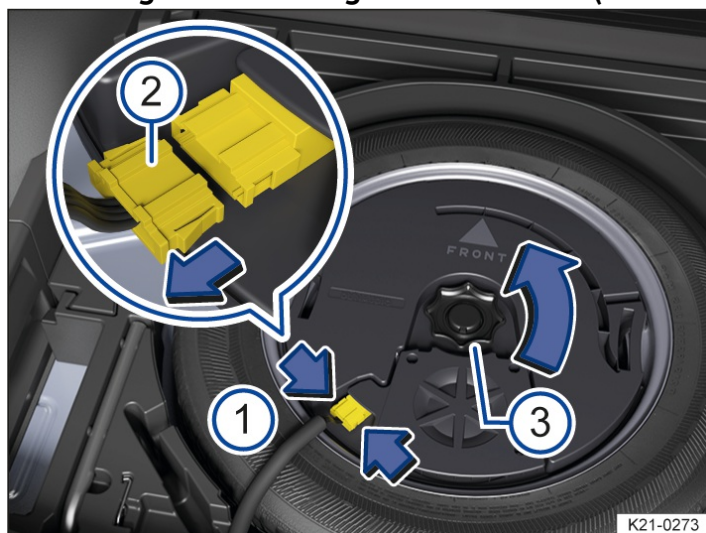

Fig. 1 In the luggage compartment: removing subwoofer (variant 1).
2. To release the connector → Fig. 1 (2), press the lugs together (arrows (1)).
3. Pull off the connector → Fig. 1 (2) as shown by the arrow, and place the disconnected electrical cable to one side.
4. Unscrew handwheel → Fig. 1 (3) in the direction of the arrow.